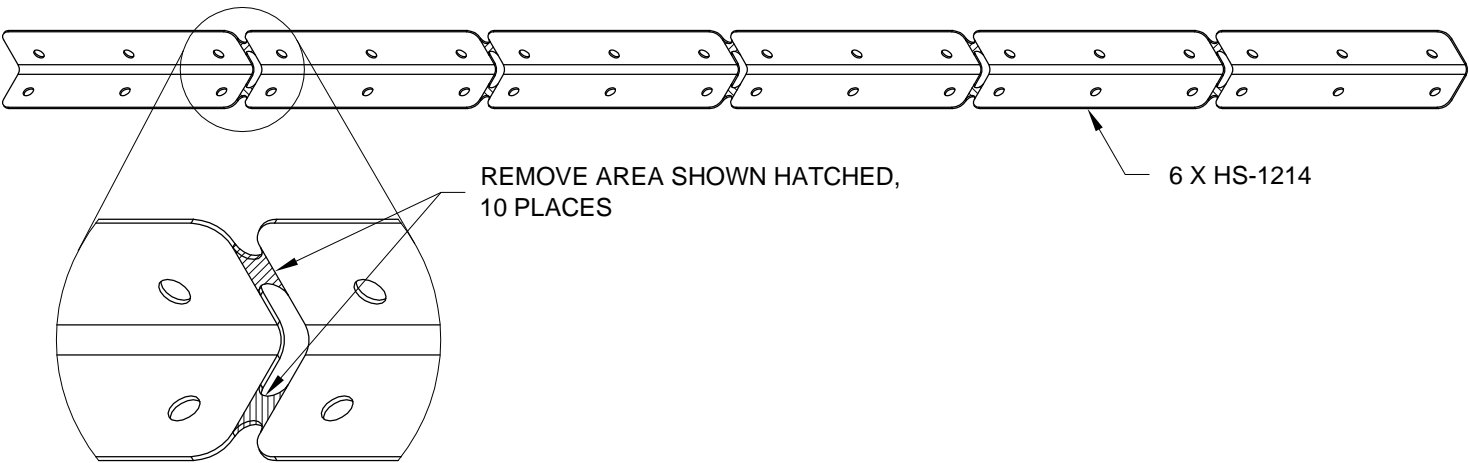

FIGURE 2:
Step 2: Separate the HS-1214 Rib Clips by removing the material shown hatched in Figure 2.